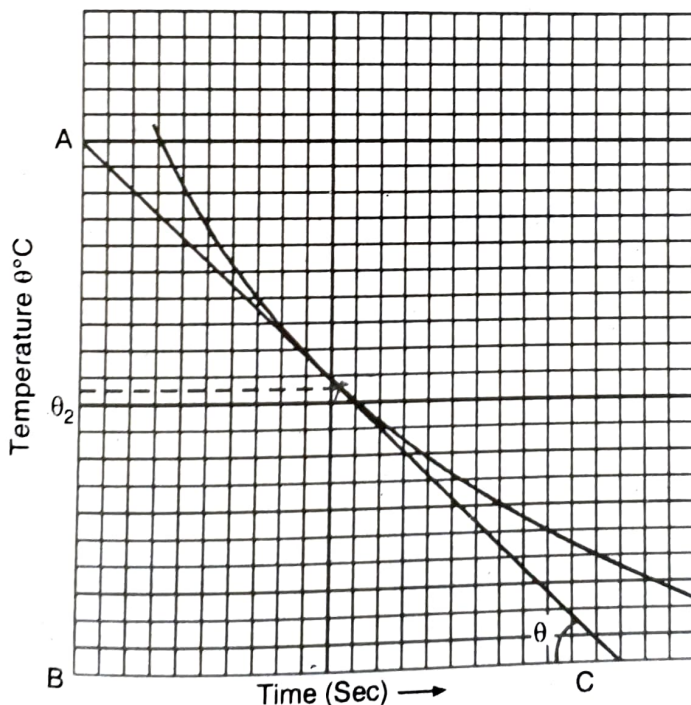

Fig. 8.9.
- (vii) Draw a cooling curve as shown in fig. 8.9 between time and temperature and draw carefully a tangent to the curve at temperature θ_2 and determine the slope of the tangent at temp. θ_2 i.e., $\left(\frac{d\theta}{dt}\right)_{\theta_2} = AB/BC$.